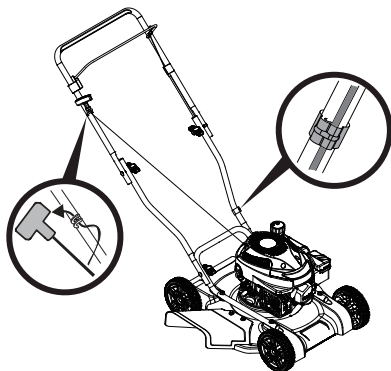

Fig. 5
1. Hold the blade control against the upper handle. Slowly pull starter rope handle from engine and slip starter rope into the rope guide (Figure 5).
2. Use the cable clamp to secure the control cable to the lower handle (Figure 5).